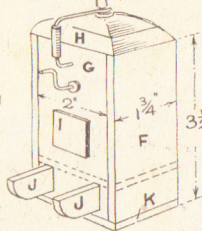

Fig. 3—Firebox
Now turn to the firebox (Fig. 3) which is made up of pieces (F), (G) and (H), with piece (K) for the base. Wood